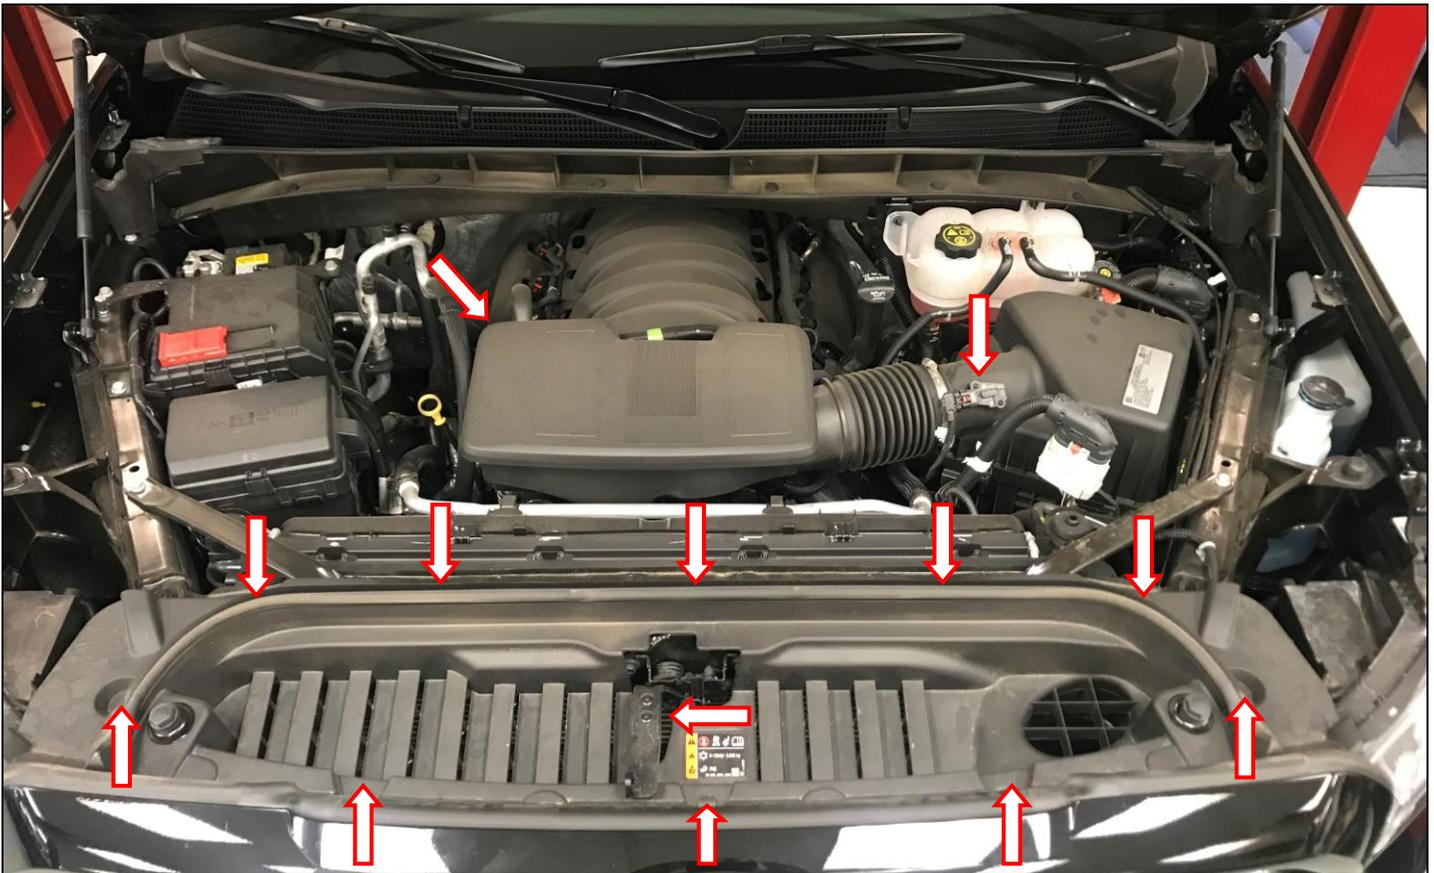

Figure 1
2. Remove the (x2) torx screws holding the hood latch in place. Slide forward and remove **(Figure1)**.
3. Carefully remove all (x10) panel clips from the plastic vent cover, as they will be reused. Remove the vent cover at this time **(Figure 1)**.
4. Disconnect the crankcase vent (CCV) hose from the back of factory intake tube and the engine **(Figure 1)**.
5. Disconnect the Mass Air Flow (MAF) sensor wiring harness from the MAF sensor on the factory intake tube **(Figure 1)**.
7. Firmly pull the intake tube towards you to remove from the throttle body. Rotate about 90° counterclockwise and lift up to remove intake tube from the metal mounting bracket **(Figure 1)**.